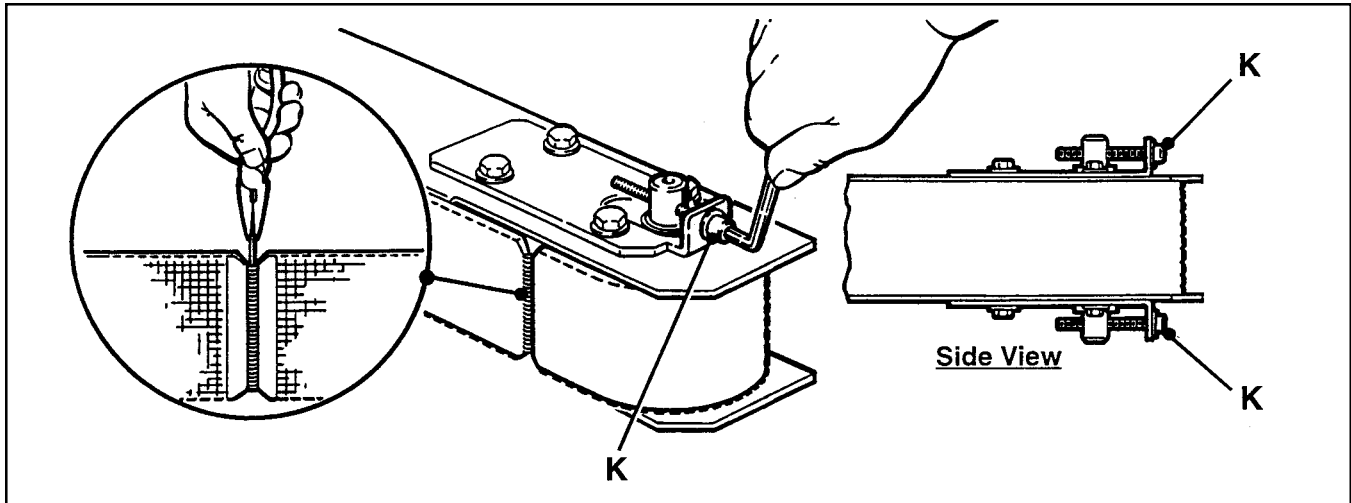

Figure 4-3 – Drive Assembly – Infeed End
5. Turn belt adjustment screws (K) counterclockwise on tension assemblies until belt is loose. See Figure 4-3.
8. To set drive belt tension – turn adjustment screws (K) equally on both the upper and lower tension assemblies. Turn the screws clockwise to increase tension or counterclockwise to decrease tension. See Figure 4-3.